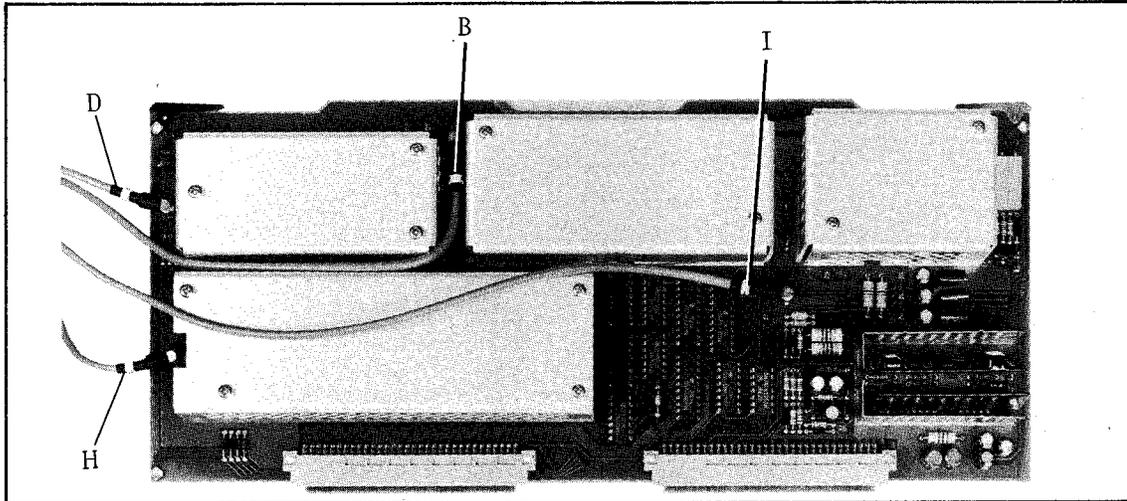

Figure 2-2. 1MHz Transducer Board
2. Connect the four coaxial cables listed in the required parts list to the four connectors on the 1MHz Transducer Board Assembly, see Figure 2-2.